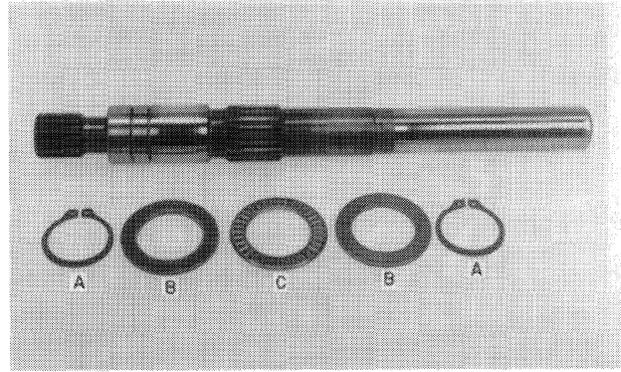

FIGURE 5-11
- c. Remove snap rings, A, thrust washers, B, and thrust bearing, C, Figure 5-11.